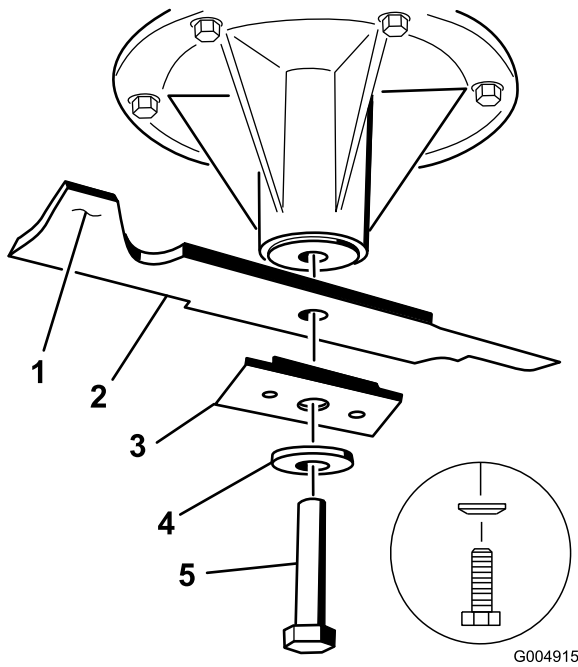

Figure 49
- Remove the blade bolt, curved washer, blade stiffener, and blade from the spindle shaft (Figure 49).
- Install the blade onto the spindle shaft (Figure 49).
Important: The sail part of the blade must be pointing upward, toward the inside of the mower to ensure proper cutting (Figure 49).
- Install the blade, stiffener, curved washer, and blade bolt (Figure 49).